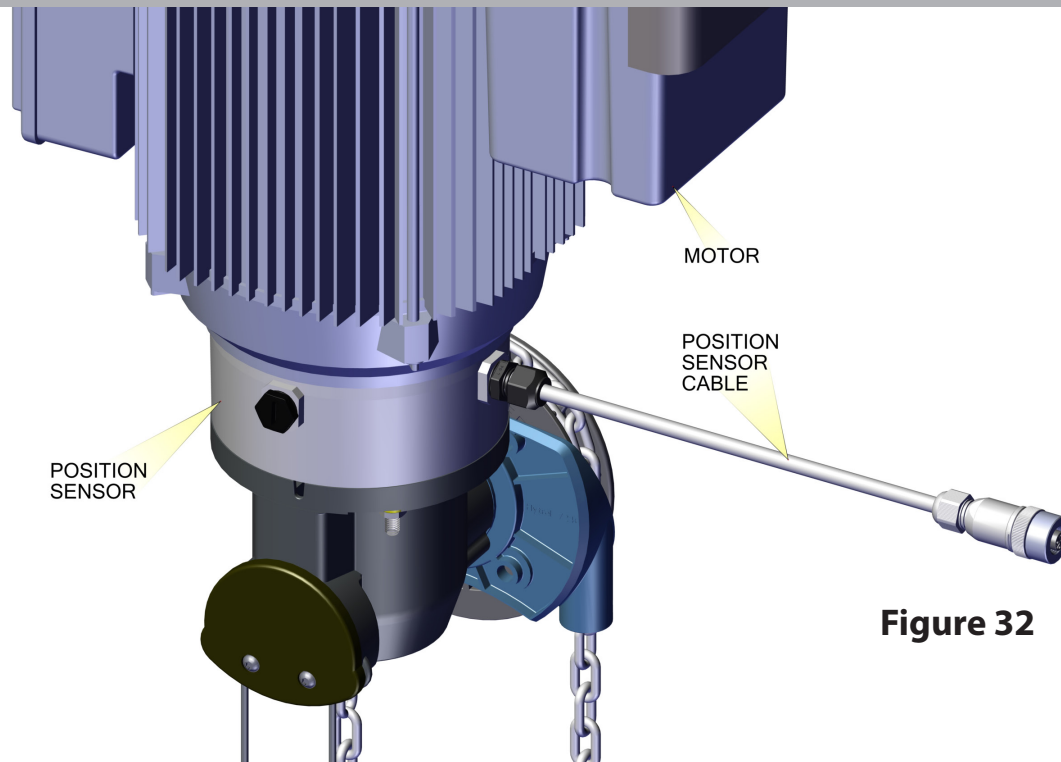

Figure 32
-5 pin cable connector (See Figures 32 and 33 on page 27)
The Position Sensor comes pre installed to the motor. See Figure 32 for location.